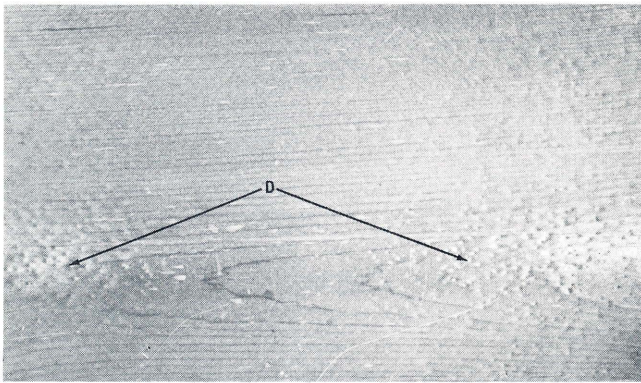
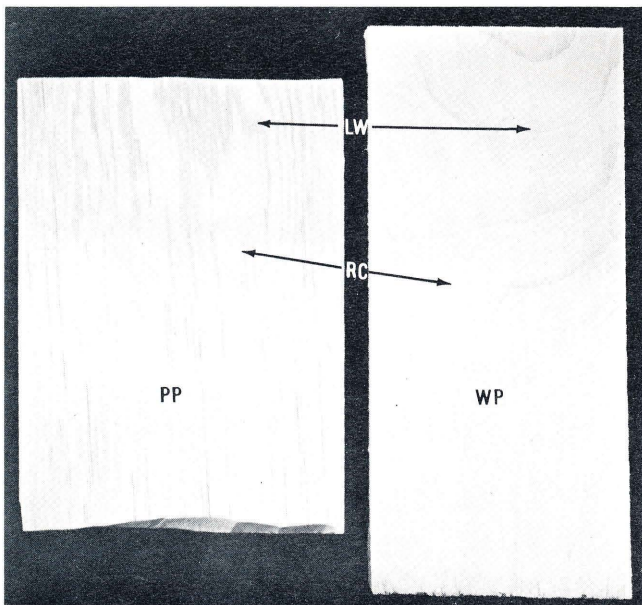

Figure 12—Dimpled ponderosa pine, D. Some spruces are also dimpled but do not have as distinct resin canals.
Figure 13—Ponderosa pine PP with resin canals, RC, and more distinct latewood, LW. White pine, WP, with less distinct resin canals and latewood.
5. Latewood distinct, sharp boundary with earlywood in the same growth ring, latewood clearly contrasted on tangential surface, Figure 13. Wood frequently dimpled (appear as indentations) Figure 12. Resin canals appear as pale dots, not holes, on cross section **Ponderosa pine**
6. Resin canals smaller and less numerous, not as prominent on radial or tangential surfaces, Fig. 13. **Western or Eastern White pine**